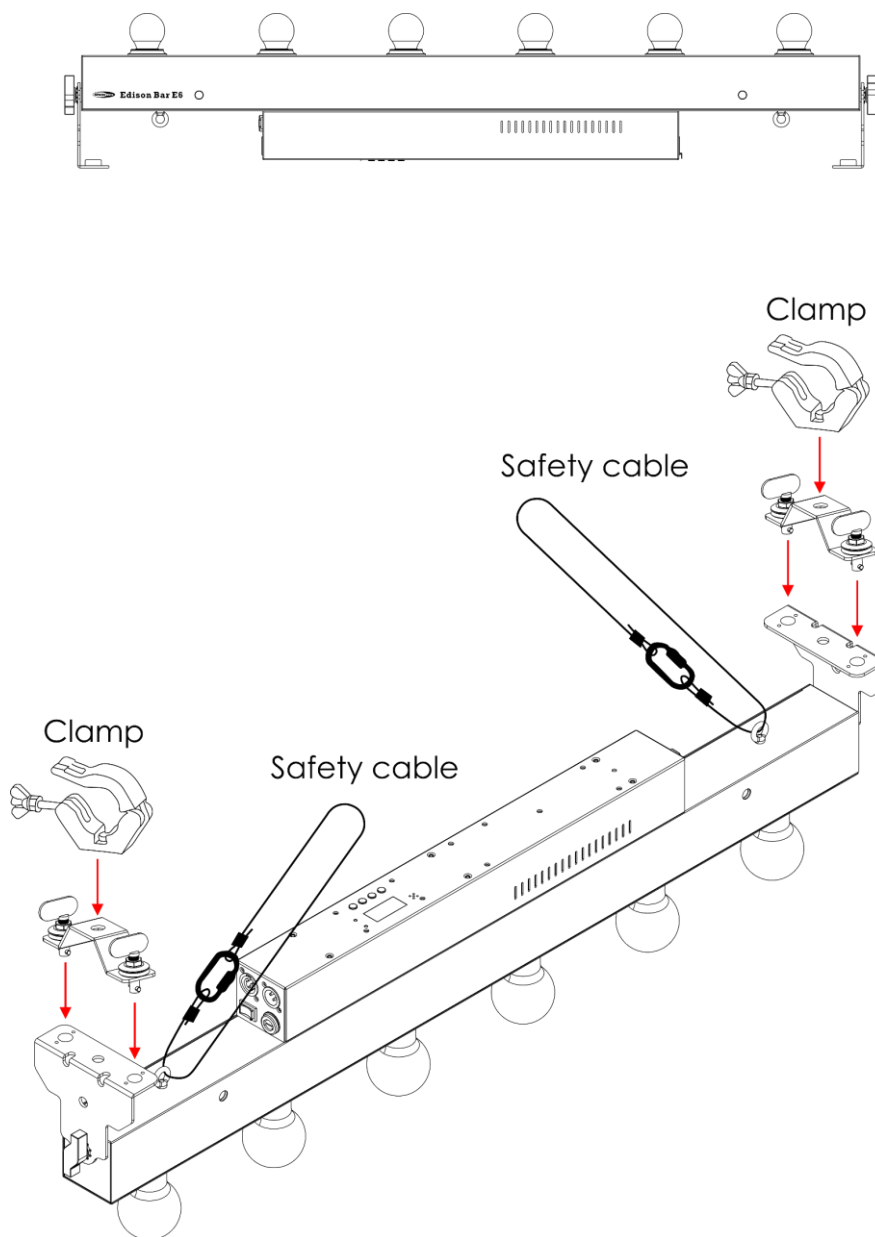

Fig. 06
- 01) Use 2 clamps to attach the device to the supporting structure, as shown in Fig. 06. Make sure that the device cannot move freely. The use of quick-lock brackets is optional.
- 02) Secure the device with a secondary suspension, for example a safety cable. Make sure that the secondary suspension can hold 10 times the weight of the device. If possible, the secondary suspension should be attached to a supporting structure independent of the primary suspension. Put the safety cable through the **safety eyes (04/16)**, as shown in Fig. 06.